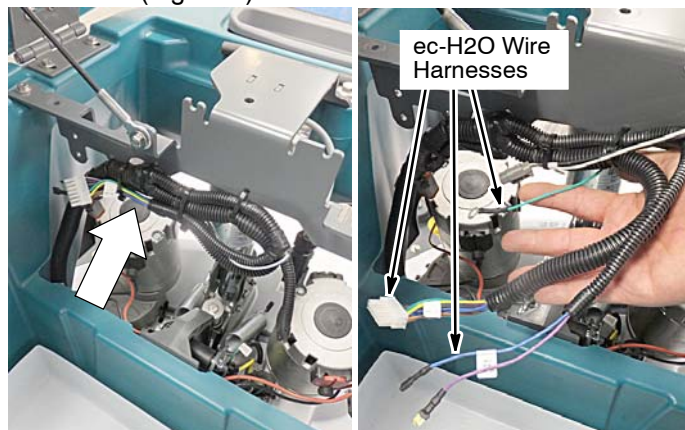

Fig. 4
3. Locate the factory installed ec-H2O wire harnesses cable-tied to the machine's main wire harness as shown (Figure 4). Cut cable-ties.